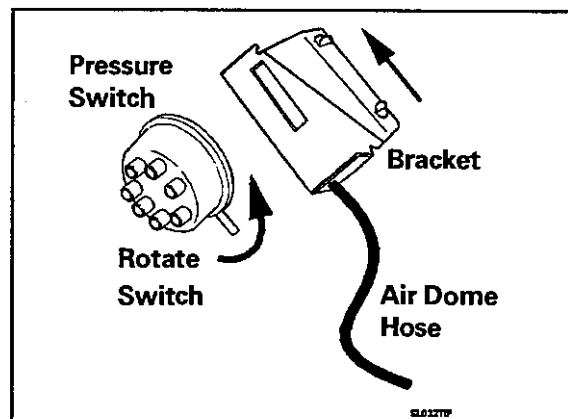

Figure 6-4
The water pressure switch is located along the rear upper cabinet flange of the washer and mounted to a galvanized bracket secured to the flange. The air dome hose is inserted into the lower end of the mounting bracket (*Figure 6-4*). The nipple of the pressure switch is inserted into the end of the air dome hose which is secured by the lower mounting bracket.
4. Slide the pressure switch up, away from the air dome hose (*Figure 6-4*).
6. Rotate the pressure switch 90 degrees to disengage locking tabs on the back of the switch from the mounting bracket (*Figure 6-4*).
- Slide the pressure switch up on the mounting bracket, away from the air dome hose. The mounting bracket for the pressure switch is secured to the rear cabinet flange of the washer cabinet (*Figure 6-4*).